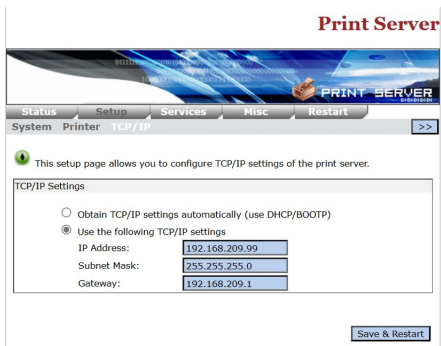

Figure 15
4. Select **Use the following TCP/IP settings**. (Figure 15)